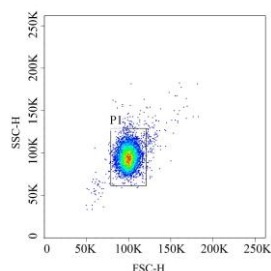

Figure 1
- 2) Create an FSC-H/SSC-H scatter plot. Adjust the gain of FSC and SSC to gate/identify the cytokine bead population using a rectangular P1 gate, as shown in (Figure 1).